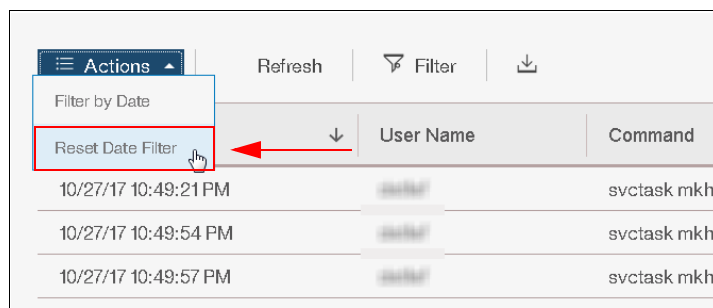
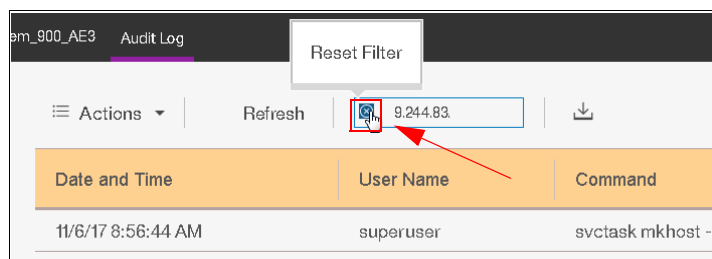

Figure 6-125 Reset the Date Filter in the Audit Log view
Figure 6-128 Audit log text filter reset
If you forget to reset the Date Filter, it remains active, even if this filter is not shown in the Audit Log view. To reset the Date Filter, click **Actions** → **Reset Date Filter**, as shown in Figure 6-125.
To reset the text filter, click **x** in the filter window (see Figure 6-128).
**Note:** To export the complete audit log, reset the date and text filter, as shown in Figure 6-125 on page 227 and Figure 6-128 on page 228.